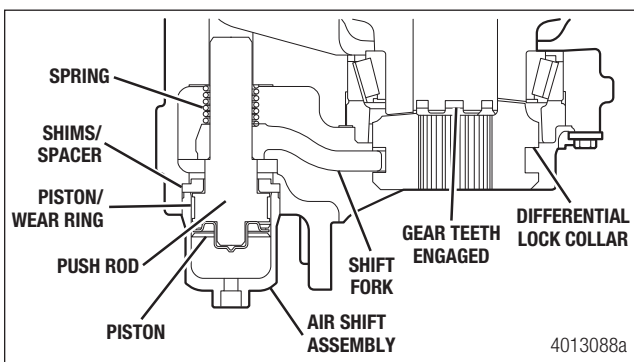

Figure 7.4
6. Verify the DCDL is engaged. Figure 7.4.